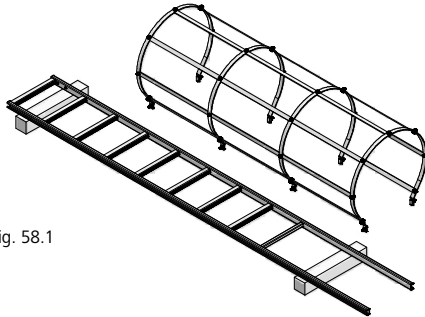

Fig. 58.1
1. Screw the safety cage to the top end of the ladder (Fig. 58.1).